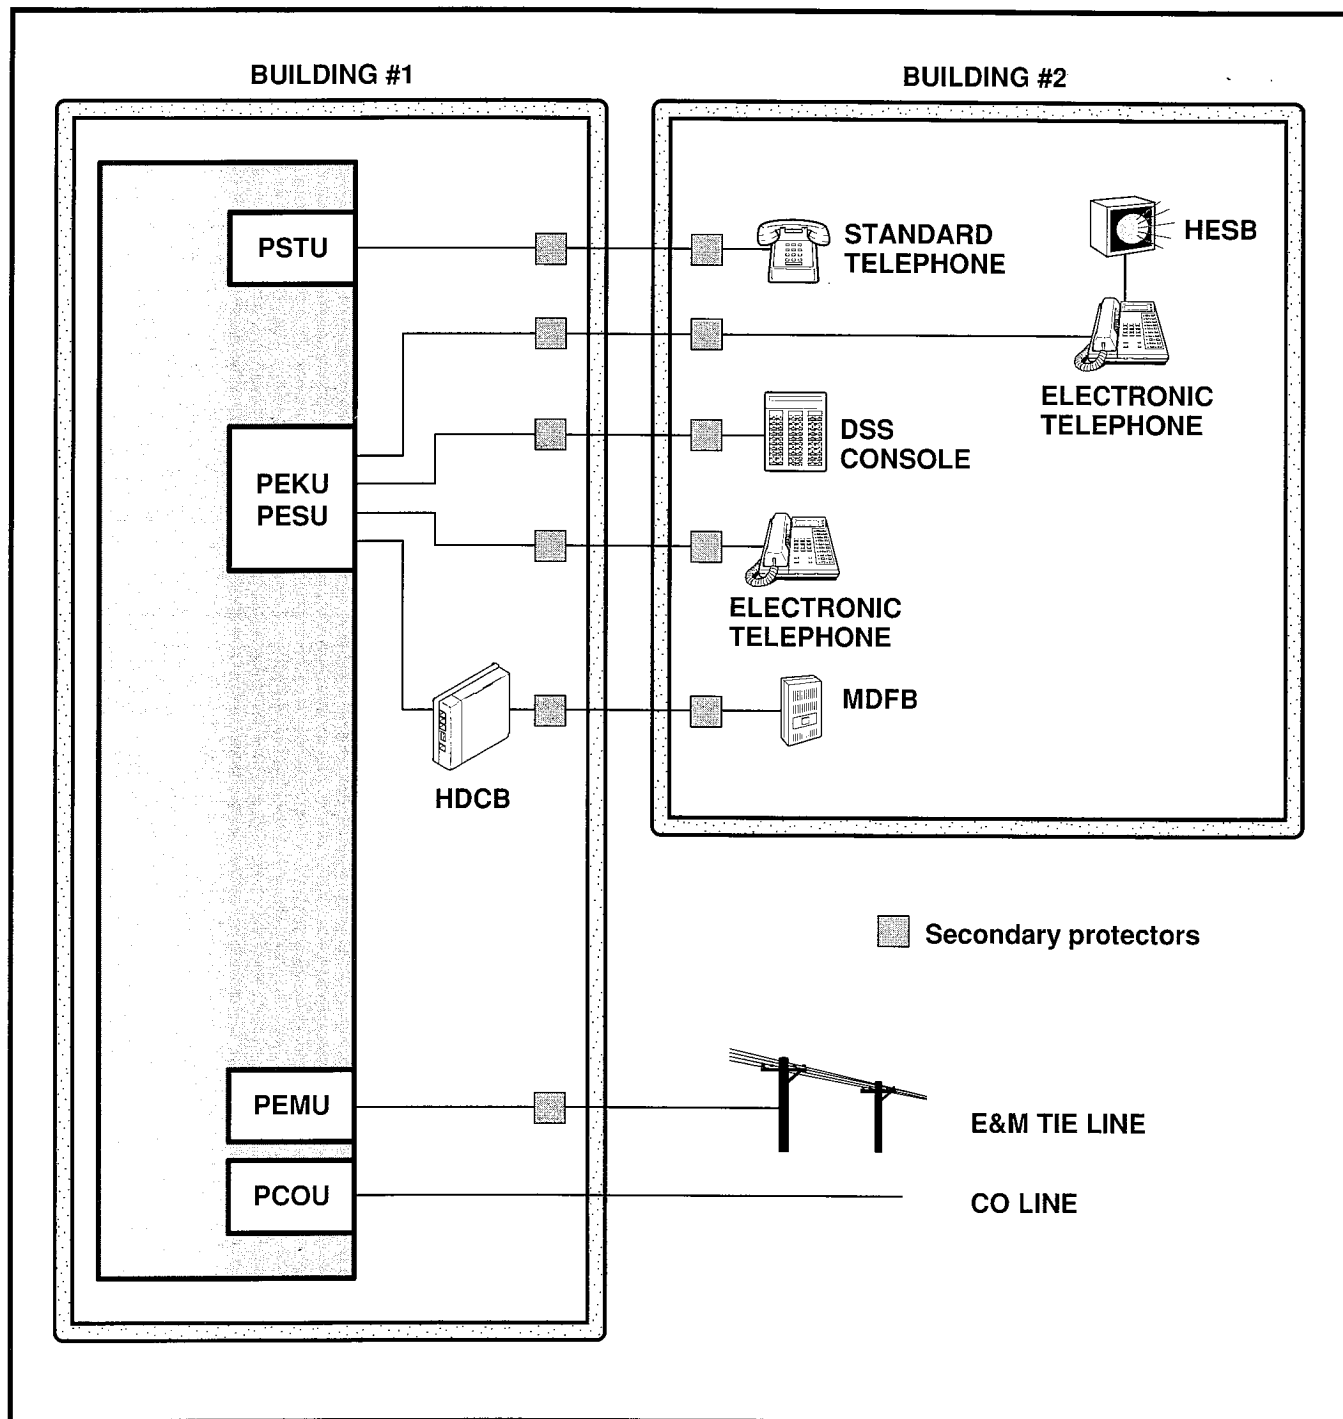

FIGURE 9-A—SECONDARY PROTECTOR DIAGRAM
- Figure 9-A—Secondary Protector Diagram
To protect against transient voltages and currents, secondary protectors must be installed if there is outside wiring (Figure 9-A). These protectors, which contain fast semiconductors in addition to fuses, shall comply with the requirements for secondary protectors for communication circuits, UL 497A. As of October 1, 1990, the following manufacturers offer secondary protectors that are UL listed.